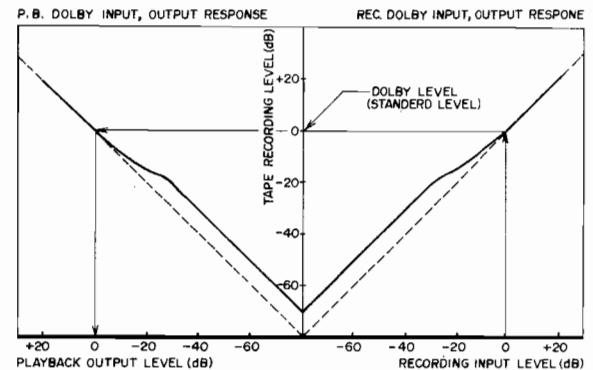

Fig. 47
In formula 3, Dolby recording circuit output signal e_0 is recorded at a 10 dB higher level in relation to a 30 dB lower input level than the Dolby level. (Refer to Fig. 47)
- 3) When input signal e gradually becomes large, the D.C. voltage which was amplified at TR8 and rectified at D6 also becomes large. When this happens, TR5(FET) impedance gradually approaches zero, For this reason, e signal level is greatly decreased by FET operation. That is to say that with regards to signal over the Dolby level (Fig. 47), the signal supplied to the base of TR6 is greatly reduced and the situation develops wherein $e \gg me = e_2$. For this reason, formula 3 becomes:
Therefore, relative to the signal above the Dolby level, ratio of input and output becomes an equal 1:1. (Fig. 47)
- 2) Also TR7 output signal is changed by the characteristic of diodes D3 and D4 and is supplied to point (b) as e_2 in Fig. 47. This e_2 signal is added at point (b) as the reverse phase of signal e , and this signal is dolbyized to become output signal e_0 . Expressed by a formula, this becomes: